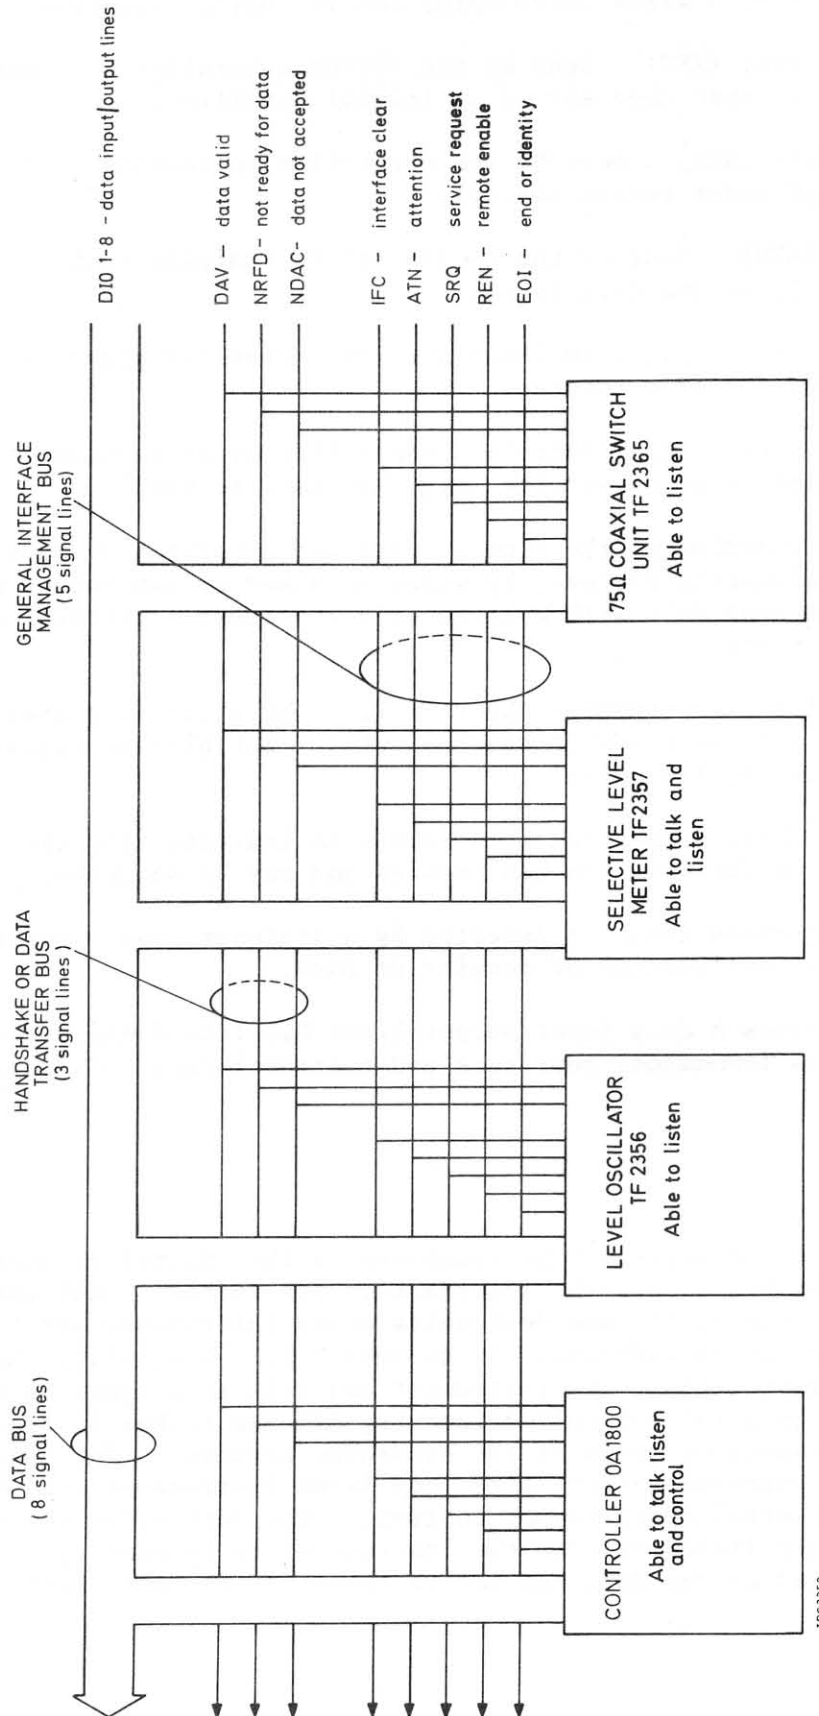

Fig. 7 Interface bus structure example
15. The GPIB interface boards fitted in this instrument enable the level oscillator to form part of an automatic measuring system. Such a system is illustrated in Fig. 7 where the instrument is shown used as part of a selective level measuring set formed with a selective level meter and with the addition of a coaxial switch unit. All instruments are interconnected by the general purpose interface bus and are working under the direction of a controller. The controller directs the flow of data on the bus mainly by designating which instruments are to send data and which are to receive data. Data are sent over the bus by a talker to listeners enabled to receive such data. Since the level oscillator has a limited control capability it is equipped to act as controller, talker and listener but when operating with a GPIB controller the sender acts as a listener as shown in Fig. 7.
16. The bus, which is entirely passive, uses 16 signal lines to connect all units of a system in parallel. These lines are functionally sub-divided into data, transfer and interface management buses (see Fig. 7).